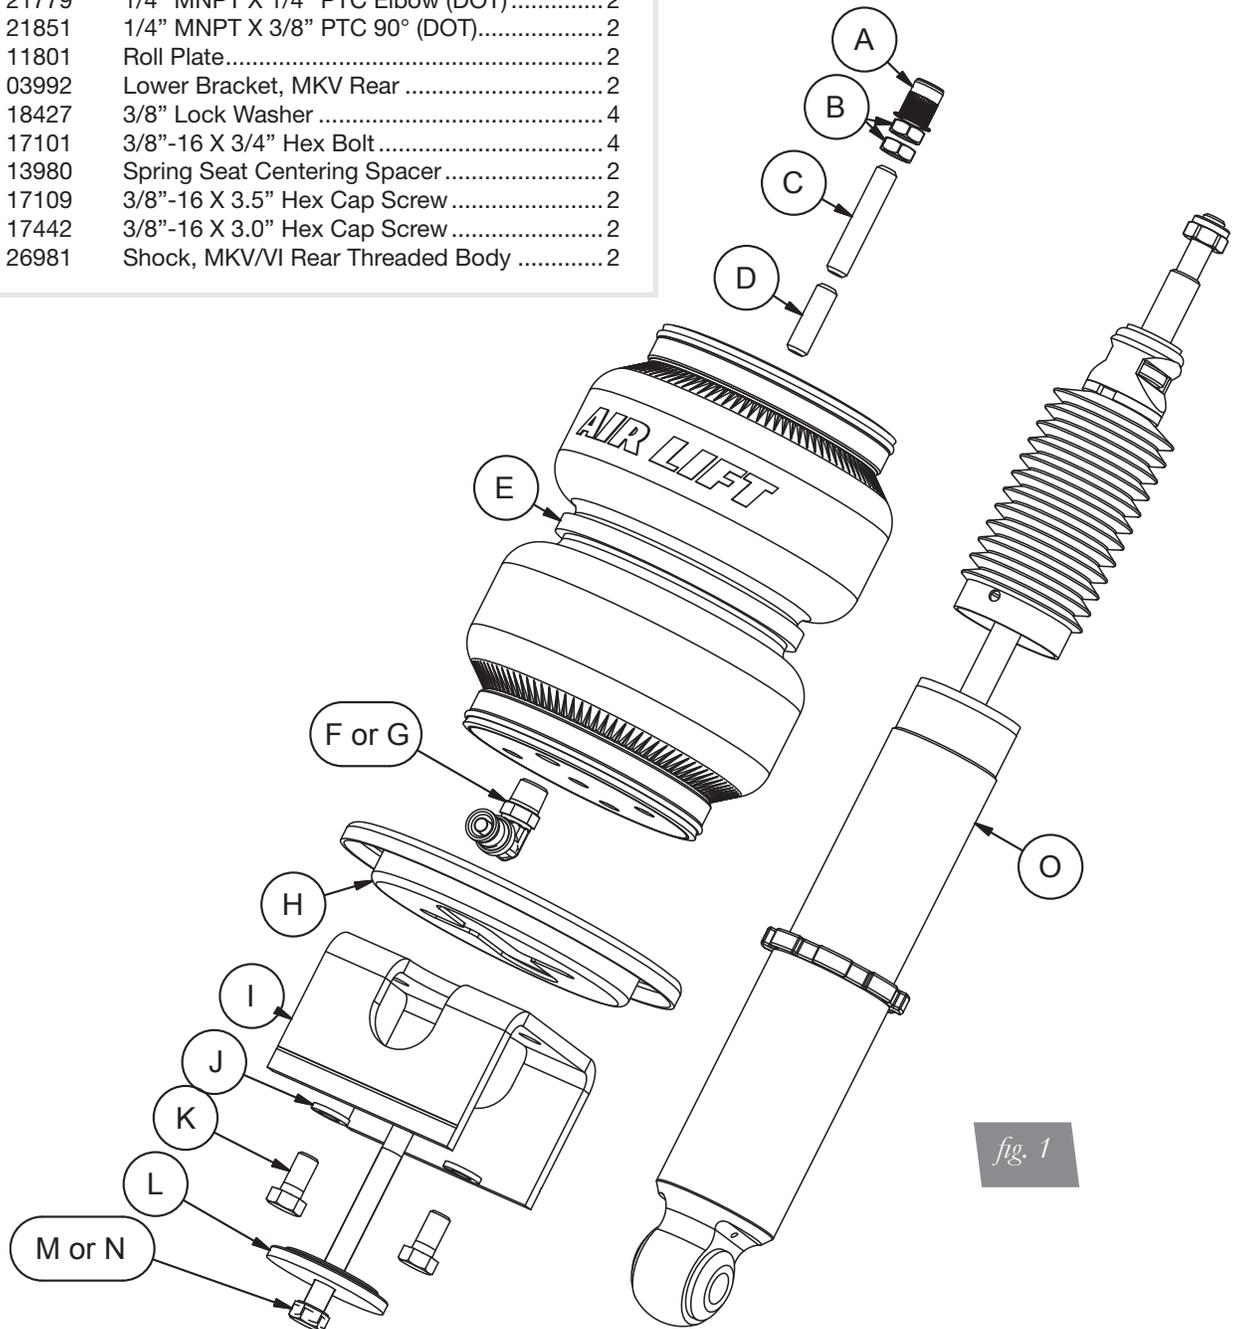

fig. 1
8. Two lengths of threaded studs are included with the kit (C or D, Fig. 1). The shorter stud is for vehicles that retain the coil spring perch bump. The longer threaded stud is for vehicles without the spring perch bump. Apply Loctite to the threads of the upper end cap and thread in the appropriate stud. Take the supplied nuts and thread both onto one stud (Fig. 9, 10). Using the nuts jammed together, tighten the stud into the end cap until it bottoms (Fig. 11). Remove both nuts (Fig. 12).
If the lower bracket has been cut, the shorter length bolt should be used to secure the assembly to the lower transverse link with the centering washer and lock washer. Uncut brackets use the longer bolt (C or D, Fig. 1) (Fig. 24).